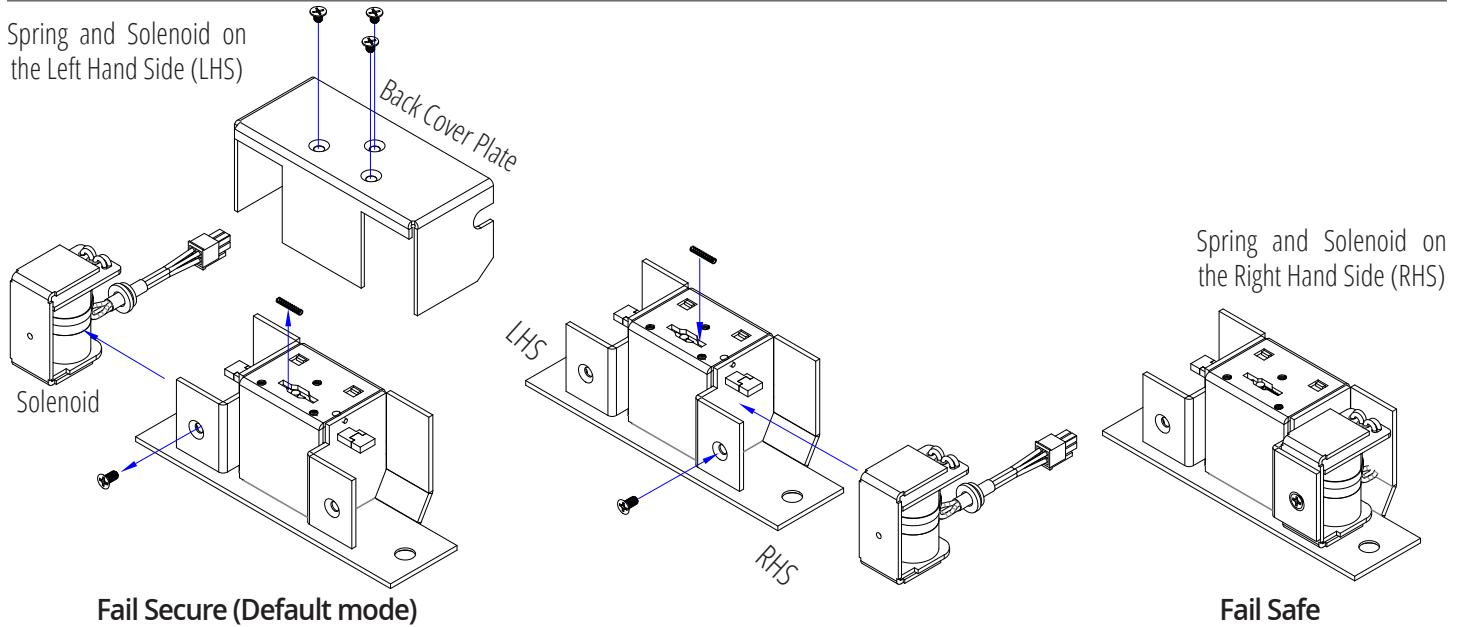

Figure 6.1
- Loosen and remove the screws from the back of the strike as shown in the Figure 6.1.